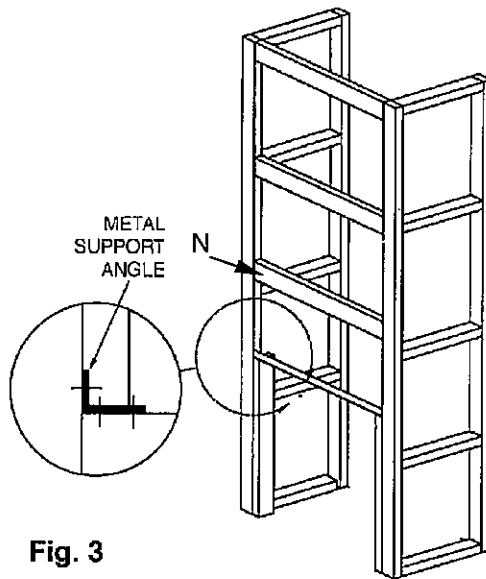

Fig. 3
4. Frame up the enclosure using nominal 90 by 45 dressed timber, verifying that it will be on the flue centreline. (See Fig. 3). The overall depth of the frame should be $(587 - t)$ mm, where 't' is the cladding thickness. The distance between the trimmers (where the assembled shielding box will fit), should be 737mm. The overall width of the enclosure frame shown is the minimum required, but if desired it may be larger. The trimmers do not run the full height, but end 719 mm above the finished top face of the floor
protector (or 719 mm above the top of the bearers if the heater is 'elevated'). Refer to paragraph 6 for floor protector thickness options and the advantage of 'elevated' installations. Fix the metal support angle across the tops of the trimmers to provide support and fixing for the front heat resistant cladding. (See Fig. 3).